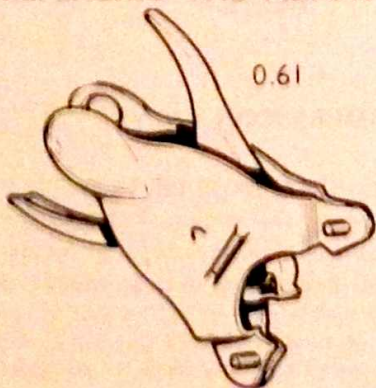

Fig. 24
- Put the piston on with the reference mark (A) pointing towards the front of the engine (exhaust side).
- Before inserting the tool 0.12, make sure that the end of the gudgeon pin which is already partially inserted in the piston is well inside the needle bearing. To do this, we advise that the centring of the piston and needle bearing and the gudgeon pin be effected by means of a stepped guide (B) as shown in the diagram opposite (fig. 24).